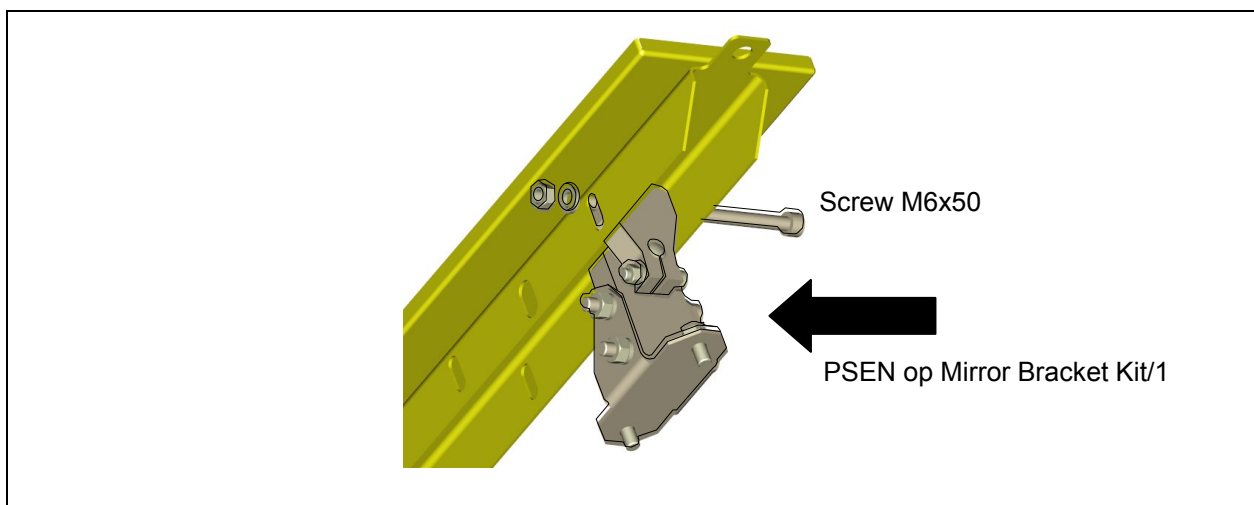

Fig. 2
- ▶ Install the deviating mirrors at the floor brackets, and the transmitter and receiver units, taking into account the notes above. Insert the screw M6x50 into the slot hole of the rail, then screw it in with the corresponding washer and nut (Fig. 2) to install the mounting bracket at the deviating mirrors.